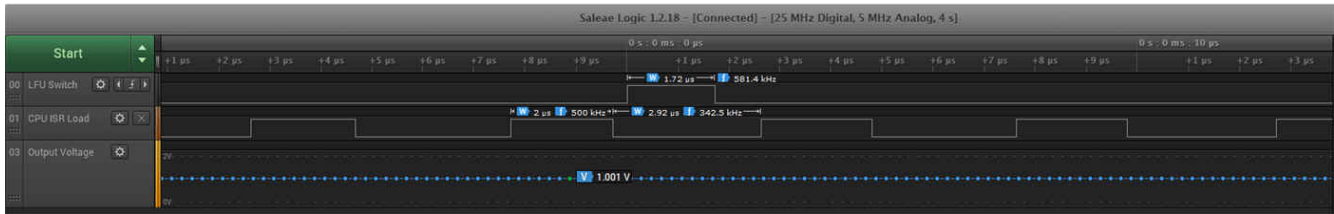

Figure 3-5. LFU Switchover Timing – Control Loop on CPU
- Refer to Figure 3-5 for details and to visually confirm the above statements. The signals shown are LFU switchover, CPU ISR load, and the regulated output voltage.